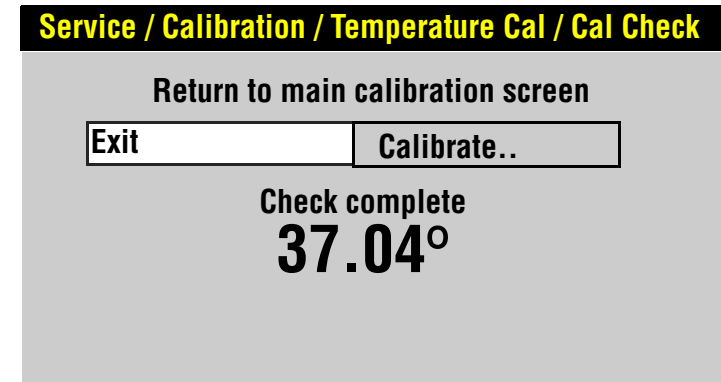

Figure 5.17—Cal check completion
8. When the calibration check is complete, the screen shown in Figure 5.17 appears.